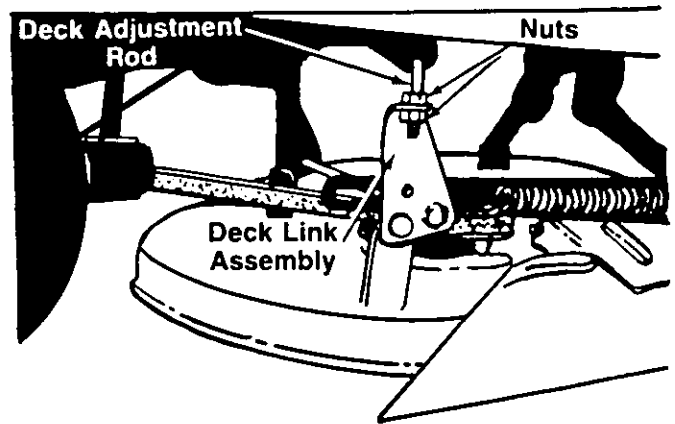

FIGURE 22.
**NOTE:** Check tire pressure in all four tires before leveling the deck. Recommended tire pressure is 12 p.s.i. If an uneven cut is obtained, the deck may be leveled. A deck adjustment rod is located on the right side of the unit. See figure 22.